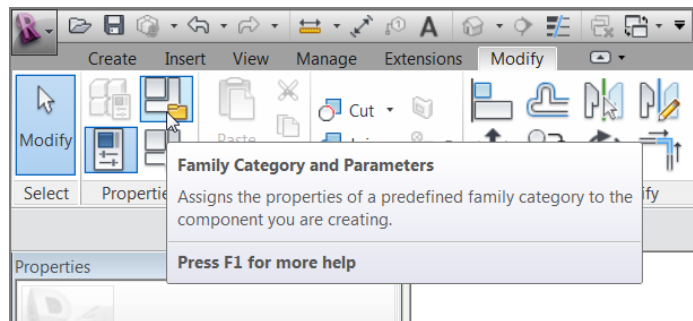

FIGURE 11.71: The Family Category And Parameters button
2. Click the **Family Category And Parameters** button, as shown in Figure 11.71.